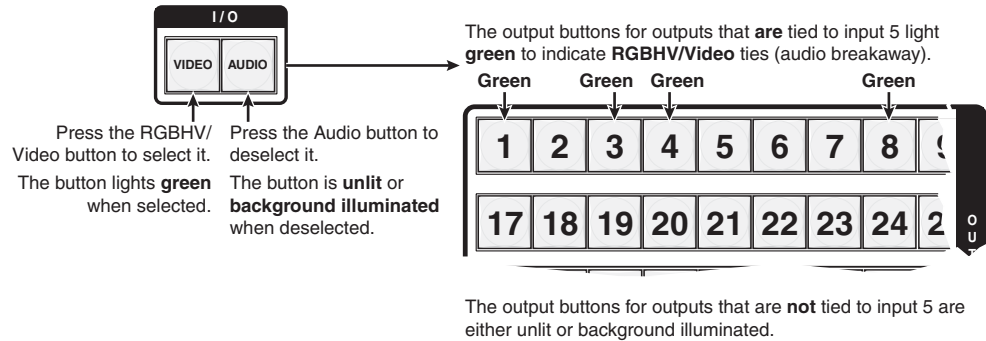

Figure 3-26 — Deselect audio and select RGBHV or video to view RGBHV or video only
- Press and release the RGBHV (CrossPoint 450 Plus switchers) or Video (MAV Plus video switchers) button and the Audio button to toggle the RGBHV or Video button on green and the Audio button either unlit or providing background illumination (figure 3-26).